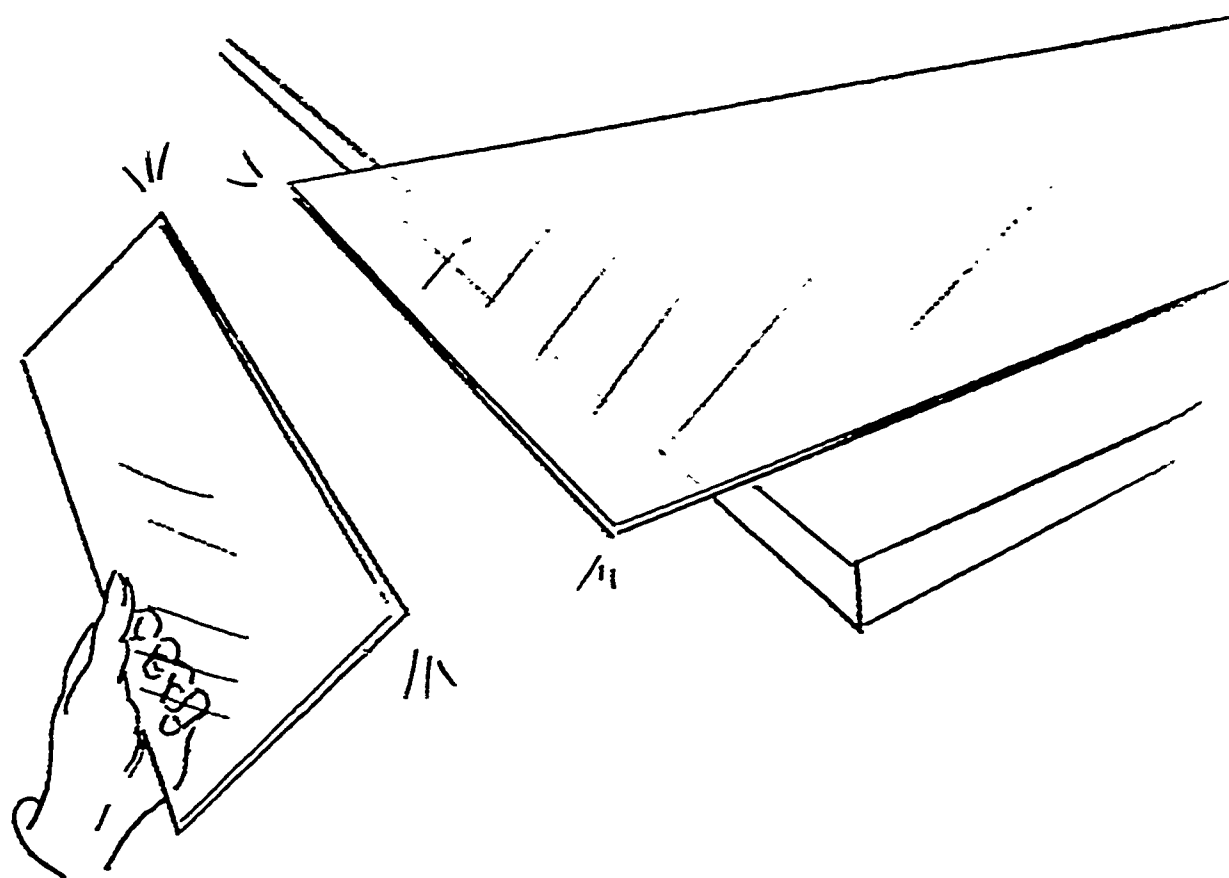

FIG. 246
10. Glass should split along the scored line, without irregularities. See figure 246.